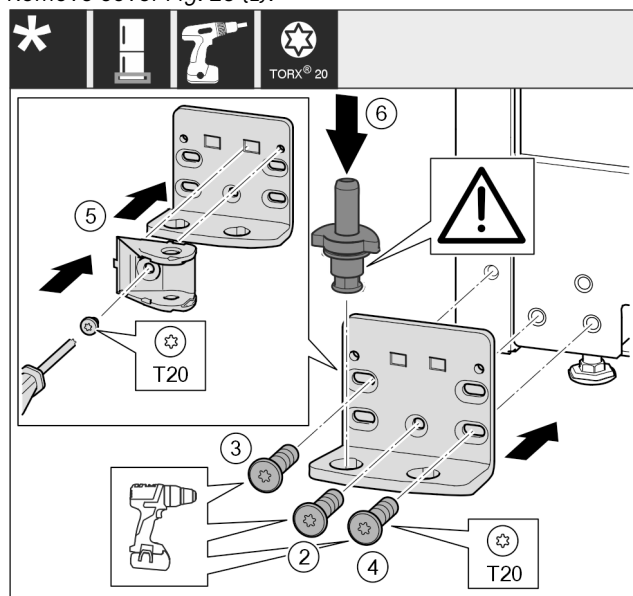

Fig. 26
- ▶ Place the swap bearing block on the other side and use a screwdriver to screw it on. Start with the screw *Fig. 26 (2)* at the bottom in the middle.
- ▶ Tighten screw *Fig. 26 (3)* and screw *Fig. 26 (4)*.
- ▶ Turn the closing damper connection *Fig. 26 (5)* by 180°. Use screwdriver to screw it onto the other side of the swap bearing block.
- ▶ Insert the bearing bolt *Fig. 26 (6)* completely. Ensure that the latching cam is pointing towards the rear.